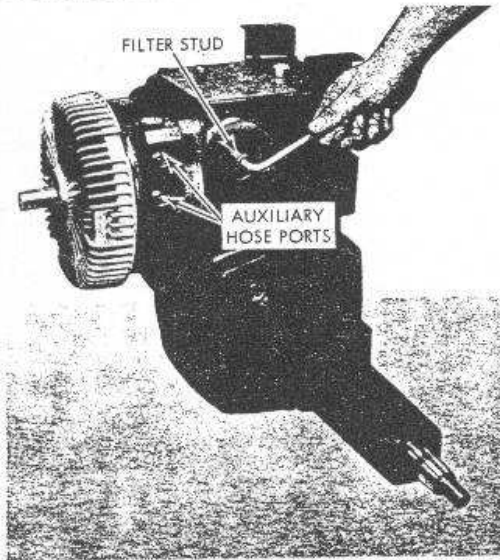

Figure 7
3. Refer to Figures 7 and 17, and remove filter stud using a wide blade screwdriver - on new design stud, use 3/8" Allen wrench to remove stud.